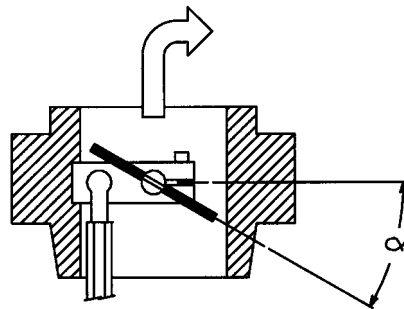
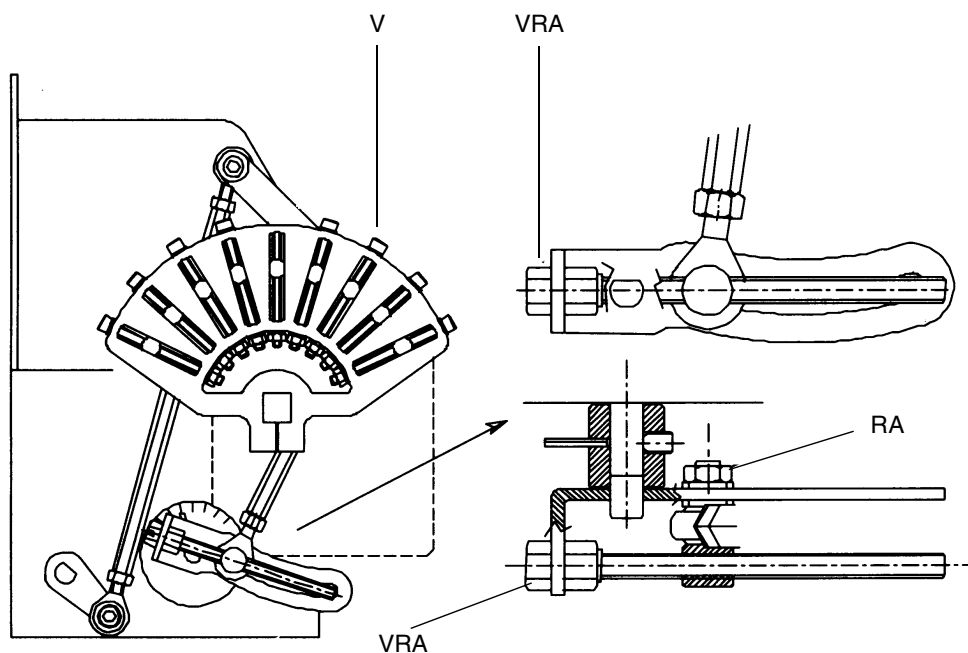

Fig. 52
Fig. 53
Adjust the gas flow rate to the required figure by adjusting the pressure governor or the valve regulator. To adjust the air flow rate (Fig. 53) slacken the screw RA and rotate the screw VRA (clockwise rotation increases air flow, anticlockwise rotation decreases it) until the desired flow rate is obtained.
- 3 Adjust the gas flow rate in the low-flame position (same position as the ignition) by means of the adjustable screws V (Fig. 53), to change the opening angle of the throttle valve (Fig. 52); rotate clockwise to increase the flow rate or anticlockwise to decrease it.